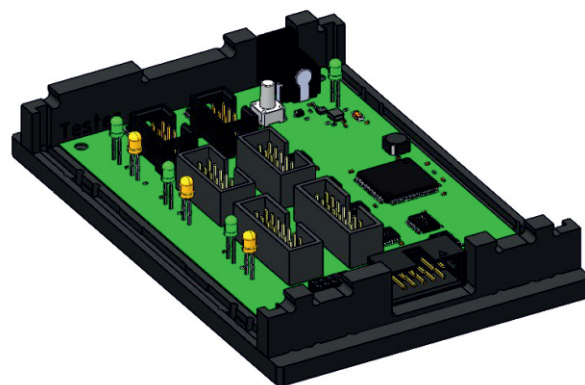

Fig. 83: Installing the tester circuit board
2) Install the tester circuit board (Fig. 83):